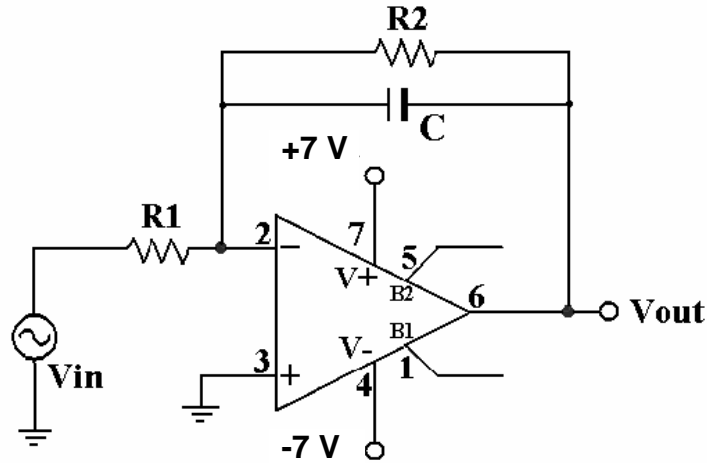

Fig 2. Lossy integrator circuit
The output is directly proportional to the integral ($1/s$ term) of the input signal, and a steadily changing output voltage is produced for a constant amplitude sinusoidal input voltage. Notice that the DC gain ($s=0$) at the output is theoretically infinite; hence any small DC signal at the input will saturate the Opamp output over time. In a real integrator circuit, a large resistor in parallel with the capacitor is required to prevent the capacitor from storing charge due to offset currents and voltages at the input. This configuration is known as “lossy” integrator or a first order low-pass circuit, which is shown in Fig. 2.
1. For the lossy integrator in Fig. 2 with power supplies ± 7 V, and assuming the Opamp is ideal, derive the time-domain equation for the output in terms of the input. Show that the circuit performs as an integrator.